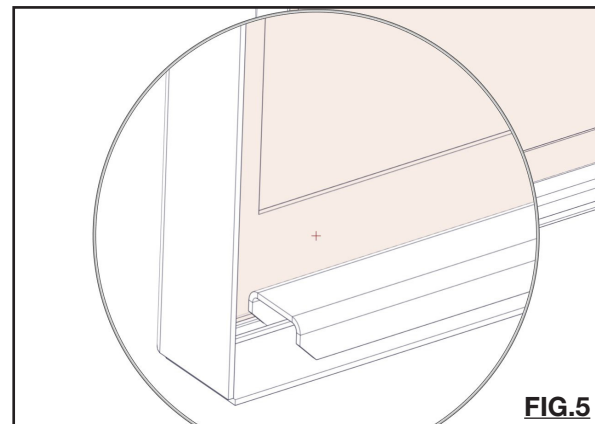

FIG.5
- G. Reposition top and bottom retainers using screws removed in Step C. Ensure retainer is in position correctly. **(FIG. 5)**